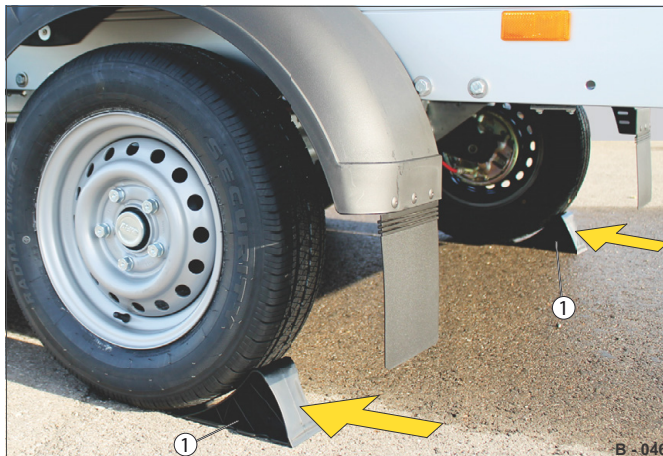

Fig. 81 Wheel chocks positioned
- Place the complete surface of the wheel chocks (Fig. 81 /1) under the wheels. Consider the direction of inclination of the trailer e.g. on a slope.